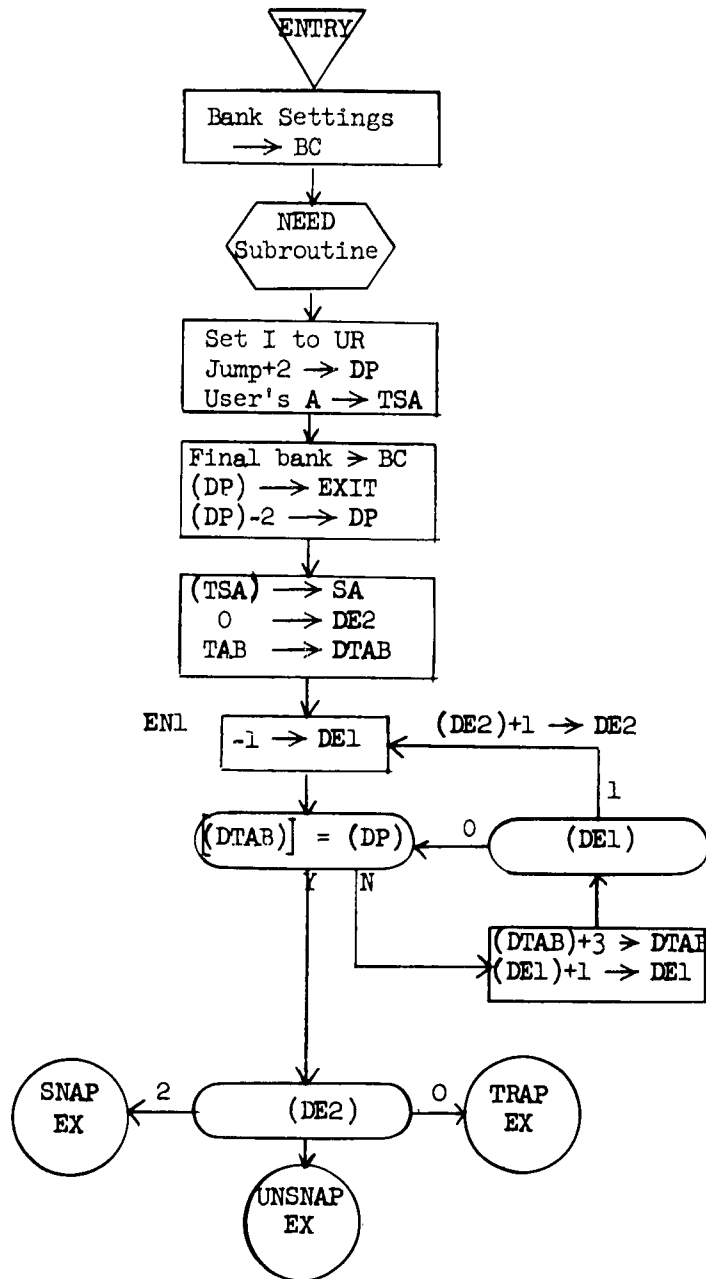

Figure 7.42
7.4 ENTRY Subroutine - TRAP, SNAP or UNSNAP Execution (Figure 7.42)